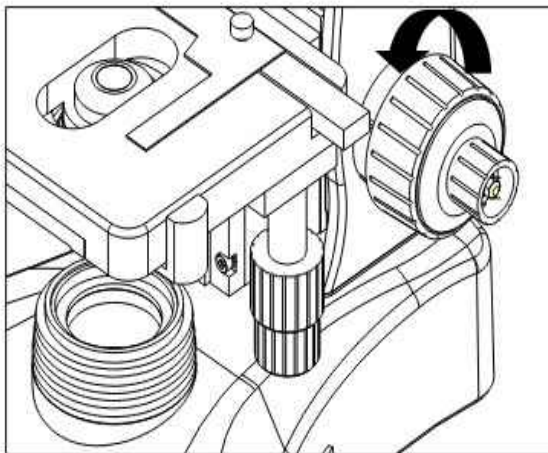

Fig 5
2.2.3 Installing objectives (Fig.5& 6)